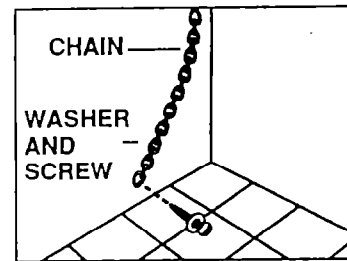
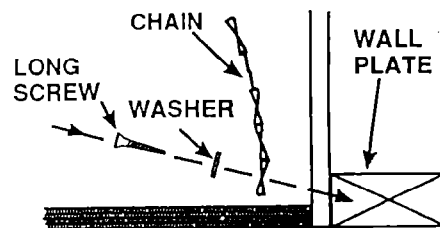

Fig. 2
Fig. 3
2) Fasten one end of the stability chain to the floor or the wall with the long screw and washer supplied. See Fig. 2. Make certain the screw is going into the wall plate at the base of the wall or one of the studs in the base of the wall. See Fig. 3. Whether you attach the chain to the wall or floor, be certain that the screw is in at least 3/4" thickness of wood other than base-board and that there are no electrical wires or plumbing in the area in which the screw could penetrate. Attach the stability chain in a location which will allow the chain to be in line with the bracket side to side as
The range is designed to provide a minimum of 1" air gap at the bottom of the range. See Fig. 2. (Example: When legs are screwed all the way into the base rail.)
Build the filler as shown in Fig. 3. Make sure to provide the 3/4" gap at the top and the 5/16" gap at the bottom. These gaps will provide the proper ventilation as mentioned before.